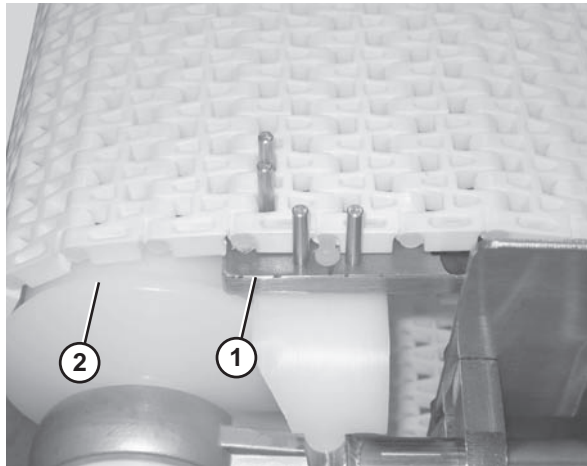

Figure 50
1. Secure the retaining head side of the belt. Use the belt removal tool (Figure 50, item 1) for 1" pitch belts. For all other belts, position the section of belt so that it is braced by the flanged puck (Figure 50, item 2).